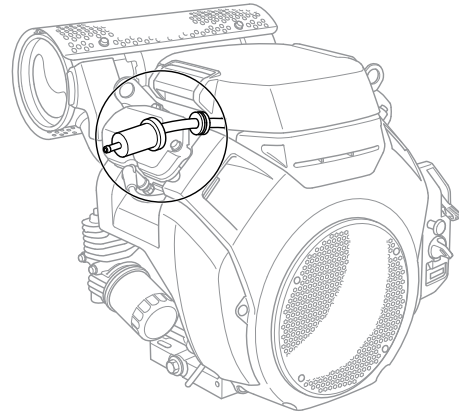

Figure 17. Fuel Filter
1. Replace the engine fuel filter (Figure 17) every 200 hours.